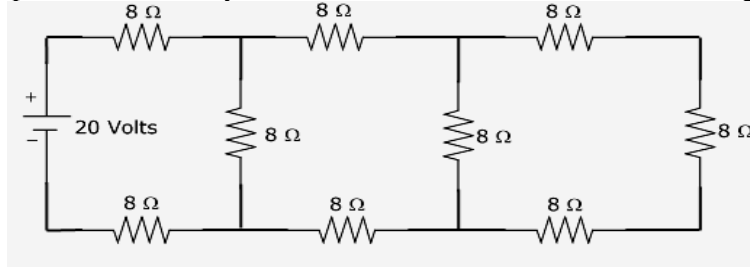

Figure2
- Calculate the power delivered by the source in the circuit as shown in the Figure 2. [7M]